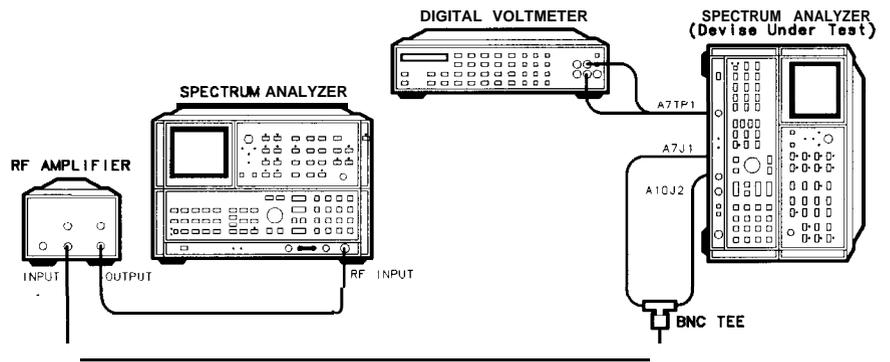

Figure 3-59. 249 MHz Phase Lock Oscillator Adjustments Setup
1. Place instrument on right side with IF-Display Section facing right as shown in Figure 3-59.